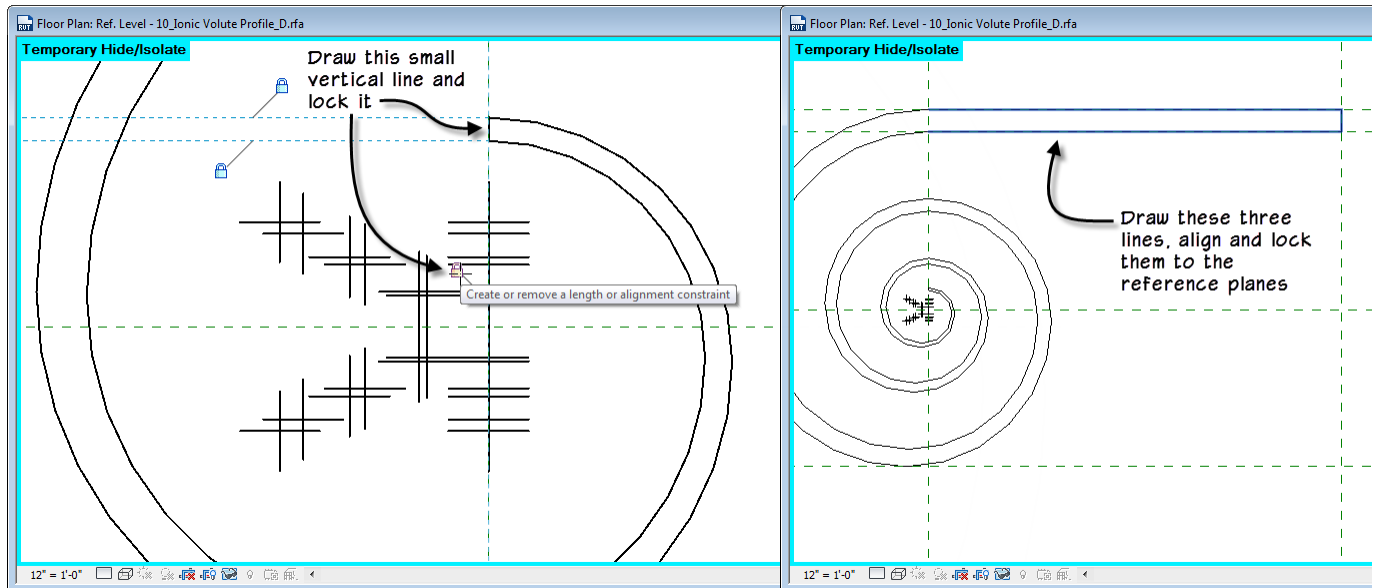

FIGURE 15—ADD A VERTICAL LINE TO CLOSE THE ENDS OF INNER AND OUTER ARC 12. COMPLETE THE HORIZONTAL PORTION AT THE RIGHT
- ⇒ Align and lock it to the vertical reference plane (see the left side of Figure 15).